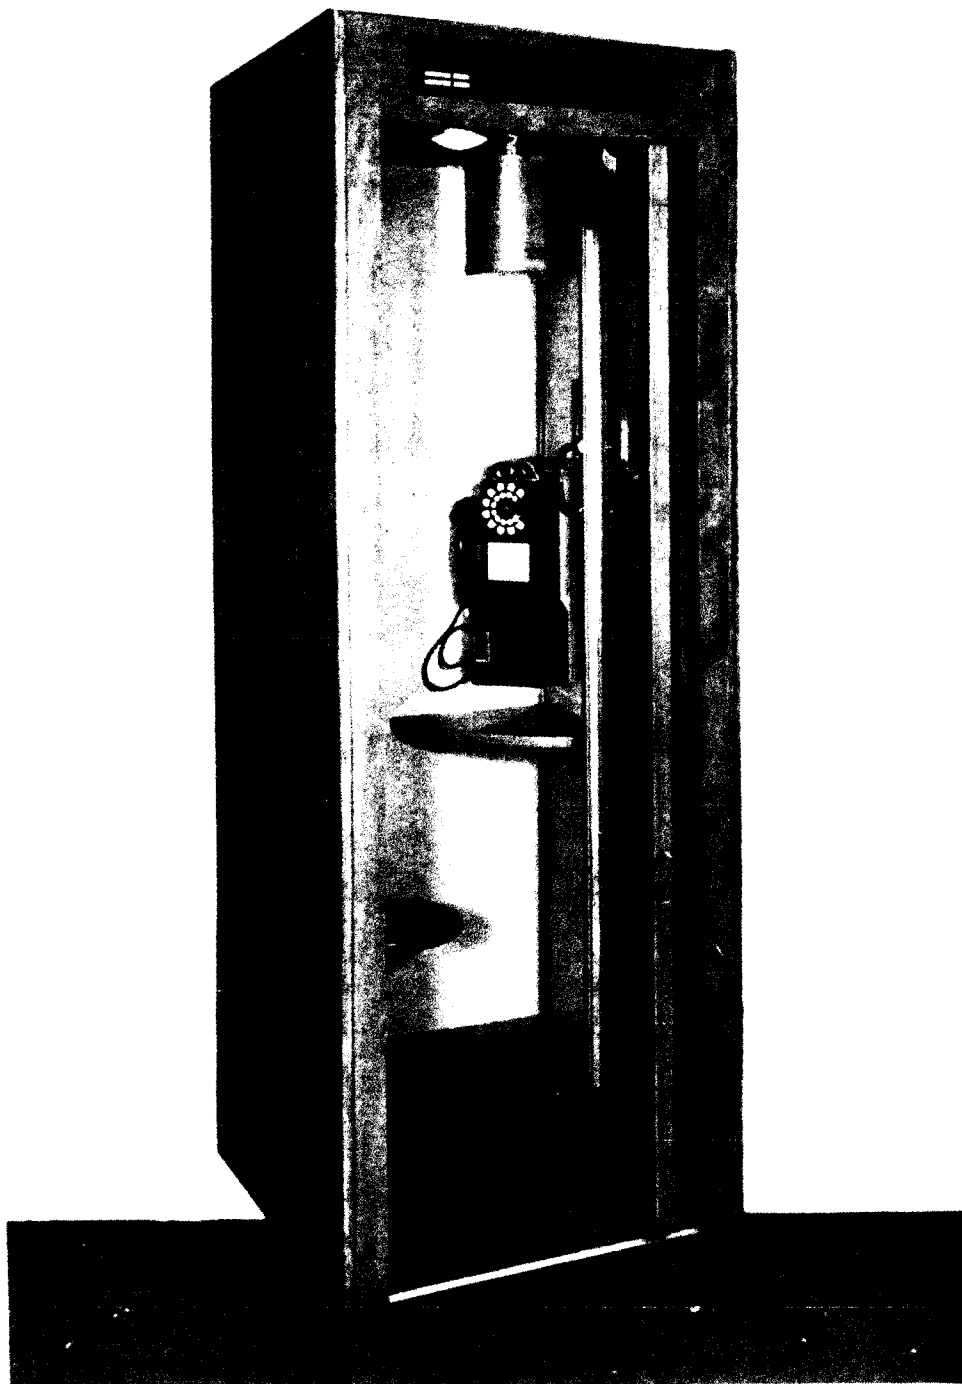

Fig. 2—11-Type Booth
2.01 The 11-type booth is shown in Fig. 2. Structurally the 10 and 11-type booths are similar. They differ, however, in that the 11-type booths are equipped with a seat whereas the 10-type are not and the shelf and backboard are mounted correspondingly higher in the 10-type booths.